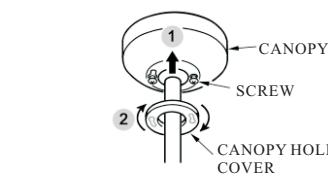

FIG.11
5. Place the canopy hole cover over the 2 screws and twist the cover to tighten. (see Fig.11)